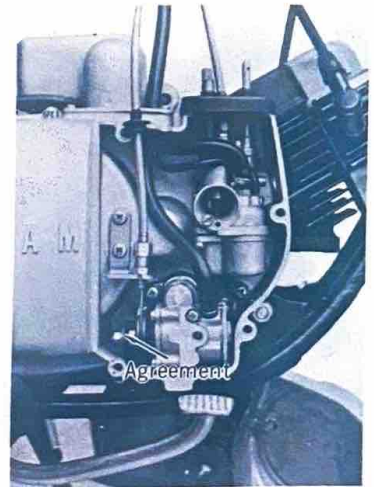

Fig 2-3-8
- a Adjust the pump cable so that the marking (arrow) on the Autolube pump adjustment pulley is aligned with the guide pin (see Fig.2-3-8). Begin by fully closing the accelerator grip, then slowly turning it back again so that the slack in the throttle cable is completely taken up. Next, adjust the pump cable so that the mark-